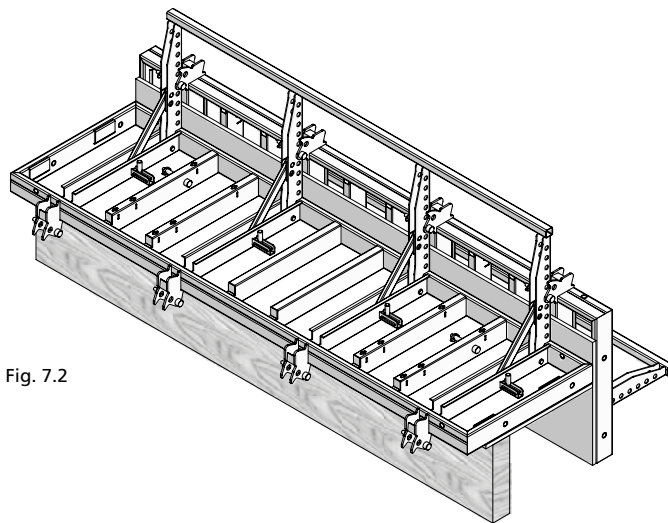

Fig. 7.2
2. As for the first and second column panels (see page CF-6), now assemble the third and the fourth column panels to form a panel unit. However, no brace frames will be attached to this unit (Fig. 7.2).